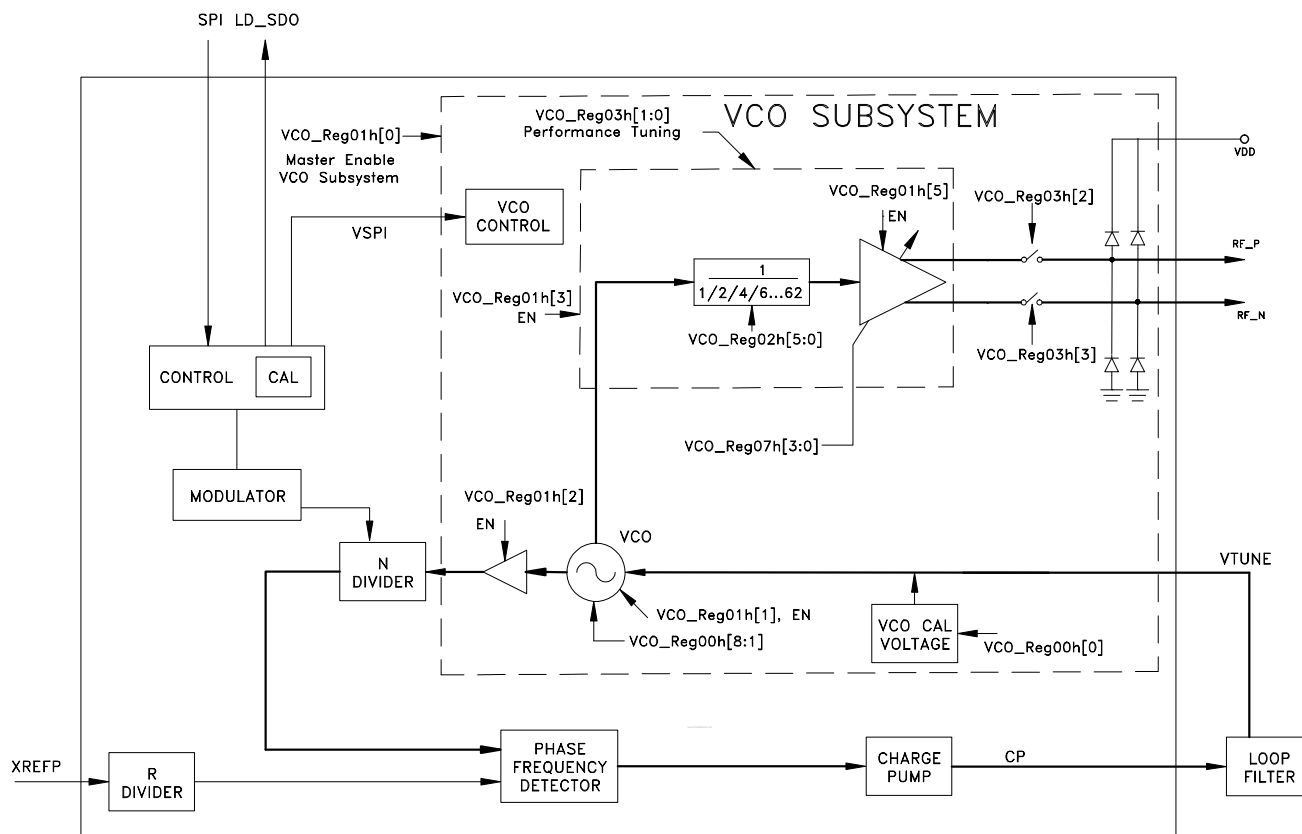

Figure 40. PLL and VCO Subsystems
All modes are VCO register programmable as shown in Figure 40. One loop filter design can be used for the entire frequency of operation of the HMC832LP6GE.
- required to change the VCO Output Divider value if needed (VCO_Reg 02h), please see Figure 40 for more information.
Please refer to Figure 40 for more information. Also note that the VCO subsystem registers are not directly accessible. They are written to the VCO subsystem via PLL Reg 05h. More information about VCO subsystem SPI in section 1.3.1.